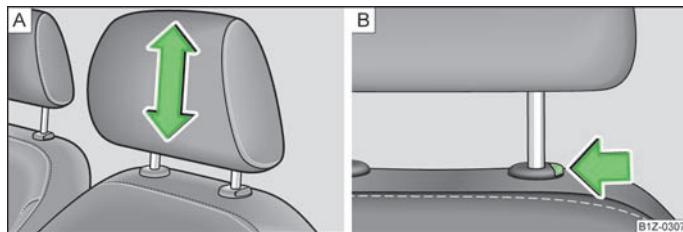

Fig. 44 Head restraint: adjusting/removing
- Grasp the side of the head restraint with both hands and push it upwards as required » [Fig. 44 - \[A\]](#).
- To move the head restraint downwards, press and hold the safety button » [Fig. 44 - \[B\]](#) with one hand and press the head restraint downwards with the other hand.
- Press the locking button in direction of the arrow » [Fig. 44 - \[B\]](#) and pull the head restraint out.